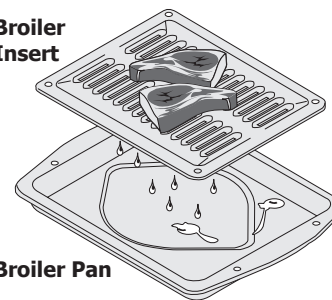

Figure 2
- Always use the broiler pan and its cover when broiling. It allows the dripping grease to be kept away from the high heat of the broil element (see Figure 2).